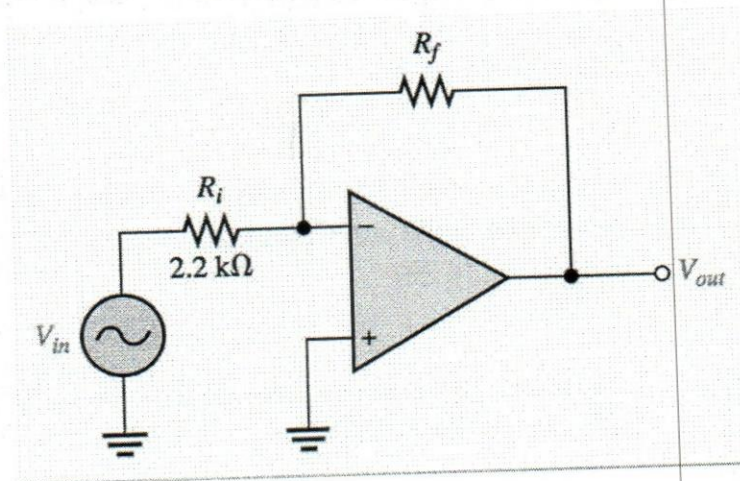

Figure 6.2
- (e) Given the Op-amp configuration in Figure 6.2, use first principles to determine the value of R_f required to produce a closed-loop gain of -100 . The Op-amp is ideal.